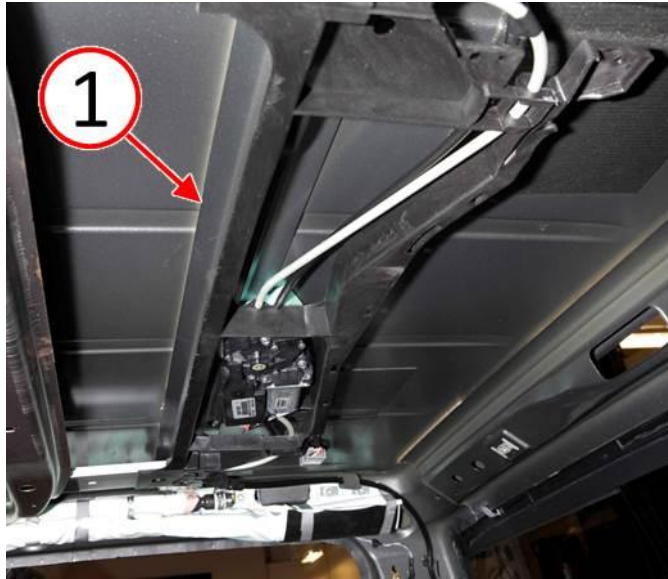

Fig. 1 Roof Bow Inspection Location
5. Slide the sunroof shade forward, to expose the roof bow (1) (Fig. 1).